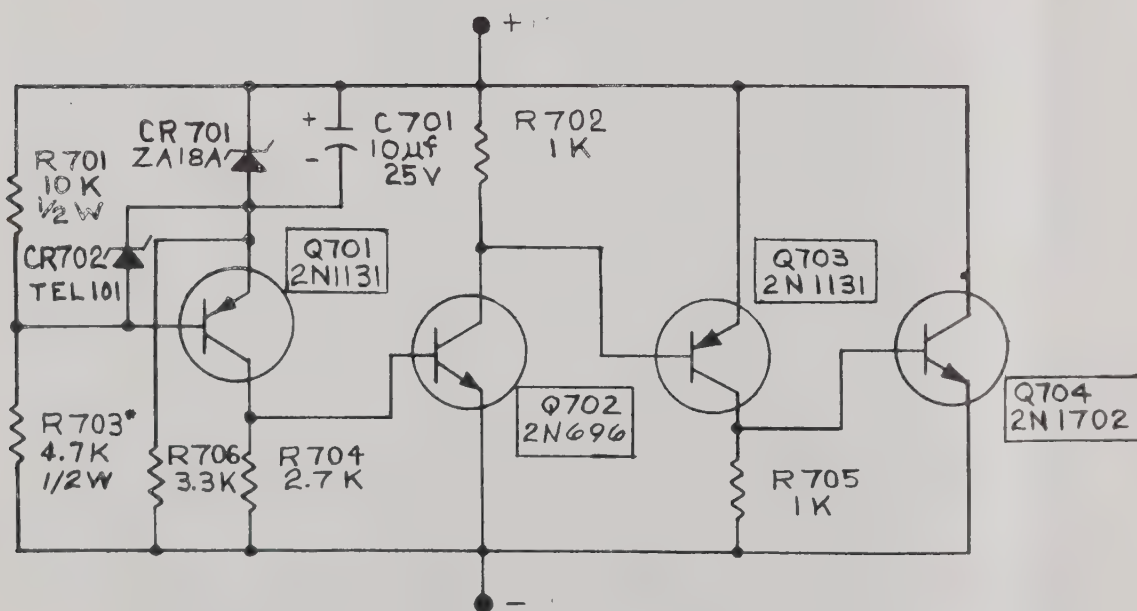

Figure 7-7 Module No. 7, Aczener
g. Module No. 7, Aczener	Figure 7-7